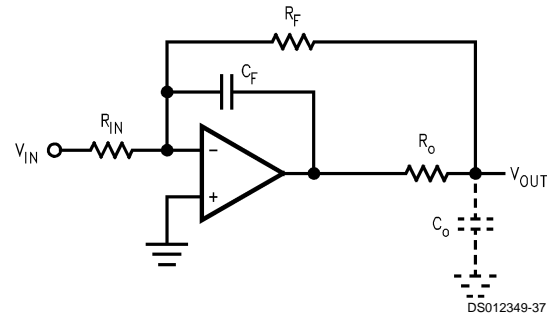

FIGURE 6.
*Figure 6* shows a method for compensating for load capacitance ( $C_o$ ) effects by adding both an isolation resistor  $R_o$  at the output and a feedback capacitor  $C_f$  directly between the output and the inverting input pin. Feedback capacitor  $C_f$  compensates for the pole introduced by  $R_o$  and  $C_o$ , minimizing ringing in the output waveform while the feedback resistor  $R_f$  compensates for dc inaccuracies introduced by  $R_o$ . Depending on the size of the load capacitance, the value of  $R_o$  is typically chosen to be between 100 $\Omega$  to 1 k $\Omega$ .